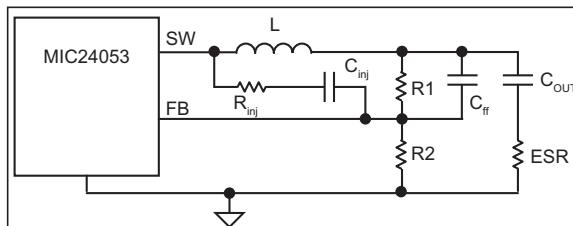

FIGURE 5-3: Invisible Ripple at FB.
In this situation, the output voltage ripple is less than 20 mV. Therefore, additional ripple is injected into the FB pin from the switching node (SW) using a resistor (R_{inj}) and a capacitor (C_{inj}), as shown in Figure 5-3. The injected ripple is: